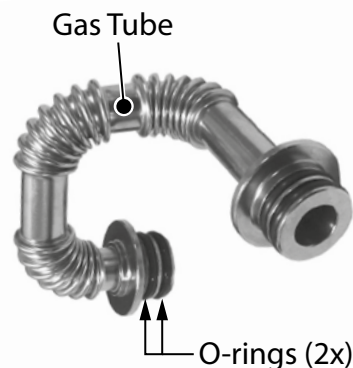

Figure 13 - Install venturi O-rings to gas tube
- 19** Locate the two (2) O-rings provided in the kit. Remove the two (2) old O-rings from gas tube (venturi mating side) and install the two (2) new O-rings as shown in Figure 13.